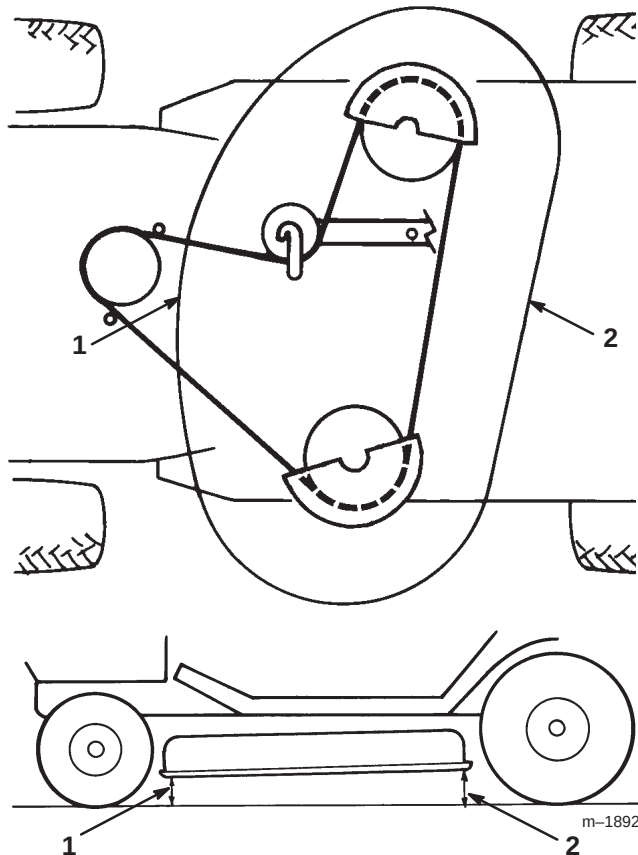

Figure 51
6. Check the front to rear slope by measuring between the bottom of the mower (front center and rear center) and the flat surface (Fig. 51). If the front is not within a range of 1/8”–3/8” (3.5mm–10.5mm) lower than the rear, an adjustment is required.
9. After adjusting both eyebolt lock nuts evenly, check the front-to-rear slope again. Continue adjusting eyebolts until the front blade tip is 0-3/8" (0-9.2 mm) lower than the rear blade tip (Fig. 51).